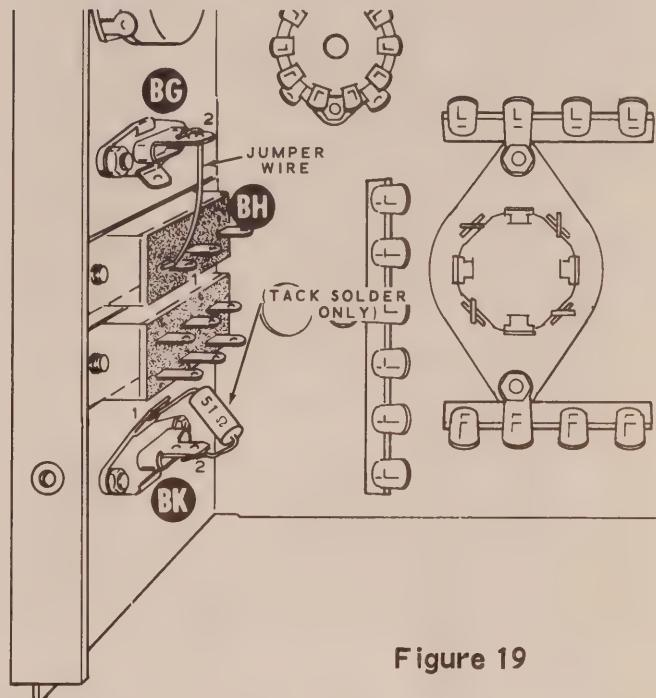

Figure 19
- () Refer to Figure 19 and temporarily connect a short jumper wire from lug 1 of the HAM SCAN-SPECTRUM ANALYZER slide switch (BH) to the center lug of the IF INPUT phono socket (BG).
- () Again refer to Figure 19 and temporarily connect one lead of a 51Ω resistor from the center lug of the RF INPUT phono socket to its ground lug (BK).